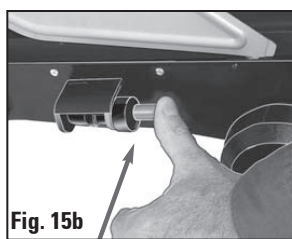

Fig. 15b
- 3) Push the igniter button several times so that it clicks each time. (FIG 15B)